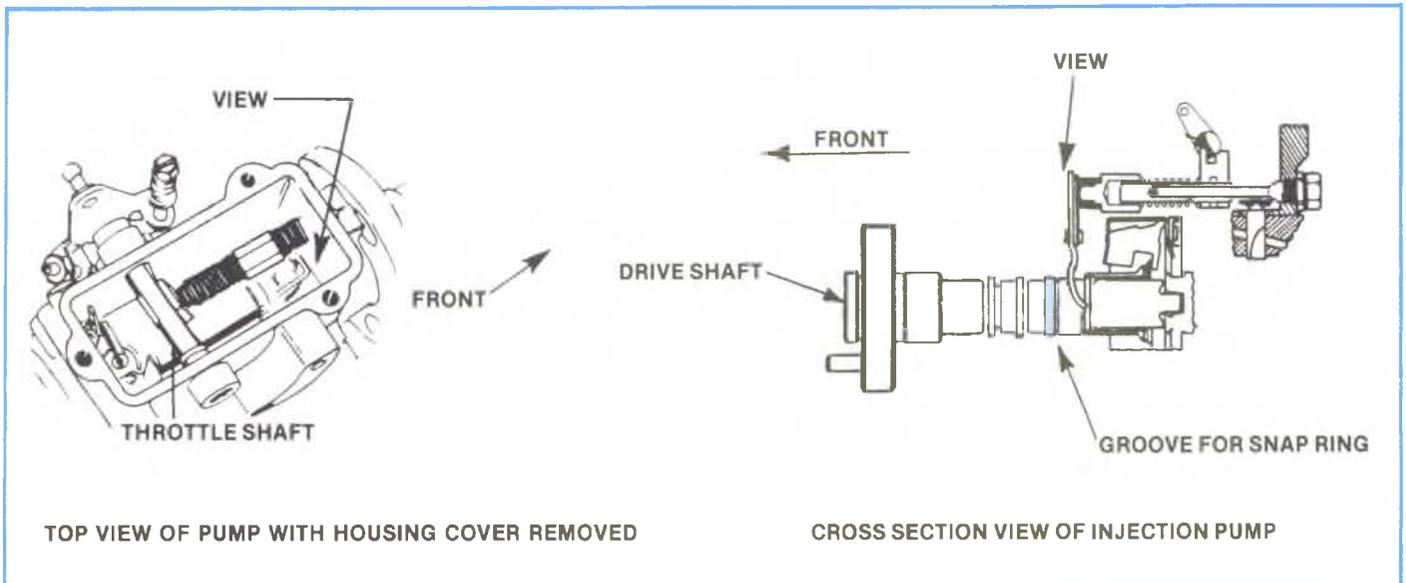

Figure 7-2, Diesel Injection Pump.
STEP 4 Using a flashlight, look between the forward edge of the housing and the governor. The main shaft will be visible below the governor. Where the main shaft enters the forward edge of the housing, a snap-ring should be visible. The use of a mirror may help to get a better view. Refer to Figure 7-2.